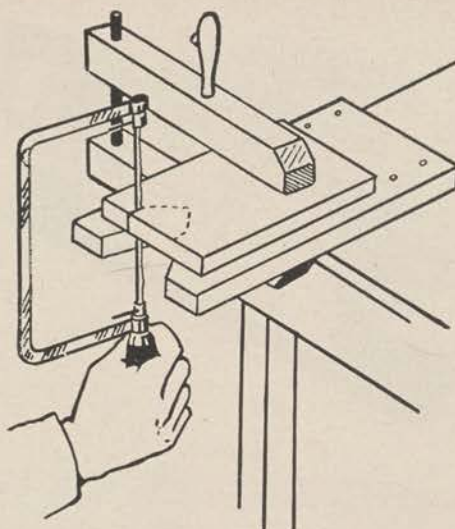
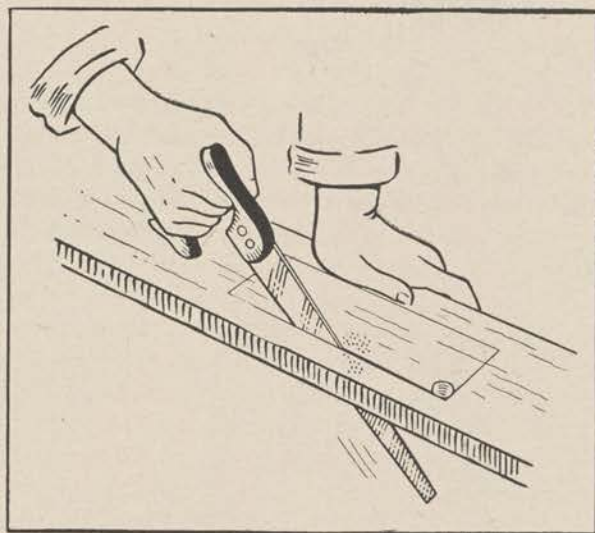

Figure 71.
Figure 72.
c. Other types of saws which will be found useful are the coping saw for cutting curves in thin wood (fig. 71) and the compass saw for curves in thick wood (fig. 72). They are also used for either straight or curved inside cuts in which case a hole is first bored in the work to accommodate the blade. In cut-